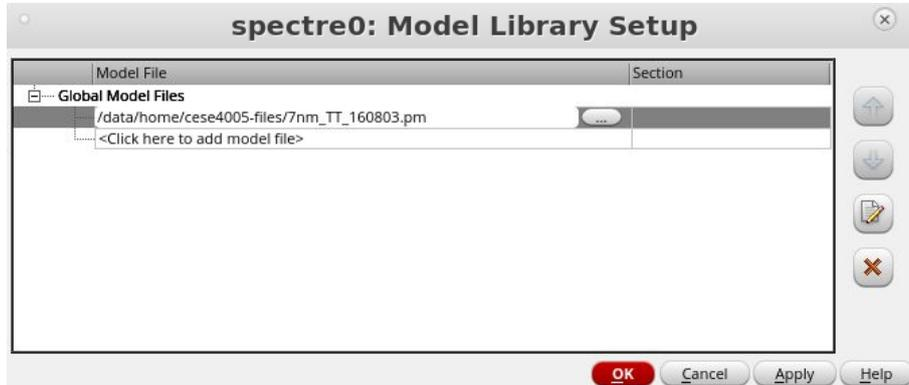

Figure 6: Model Library Setup
- Model Files: The transistors from *analogLib* are empty models without behavior. To add behavioral information, click *Setup > Model Libraries*. Add the model file located at “/data/home/cese4005-files/7nm_TT_160803.pm”; The Model Library Setup should look as in Figure 6. Press OK.